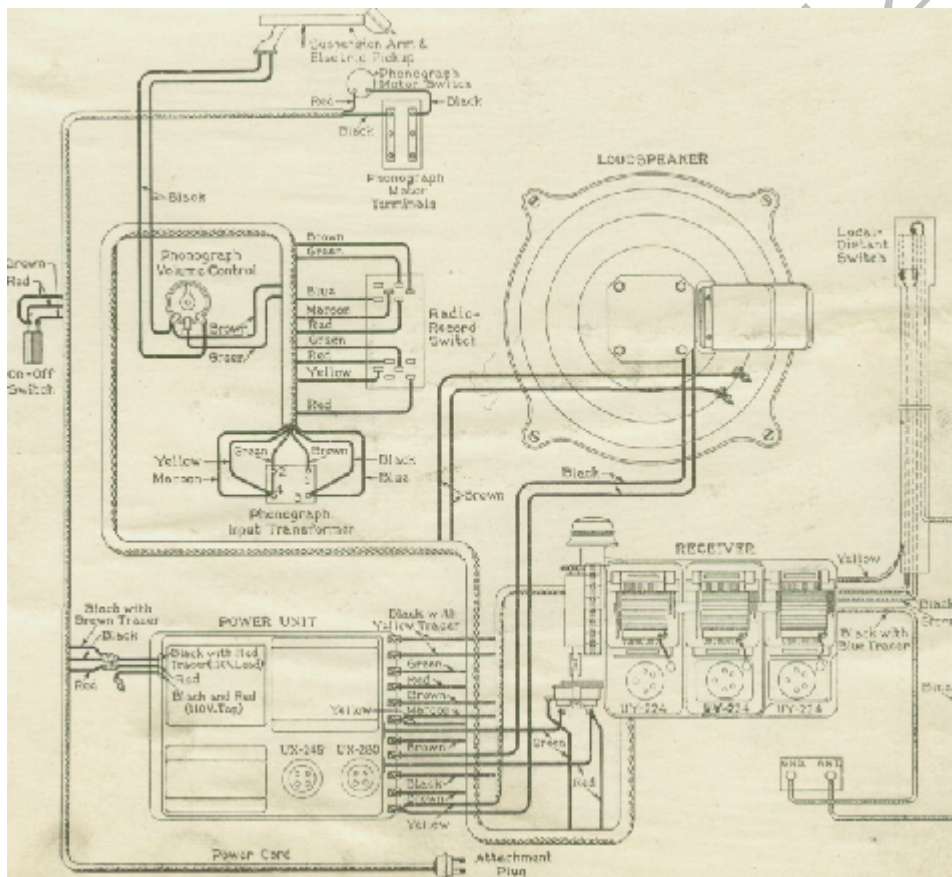

Fig. 6. RCA Radiola 47 Cabinet Wiring
**Power Supply**—Reception may possibly be improved by reversing the attachment plug (Fig. 6) at the electrical outlet.